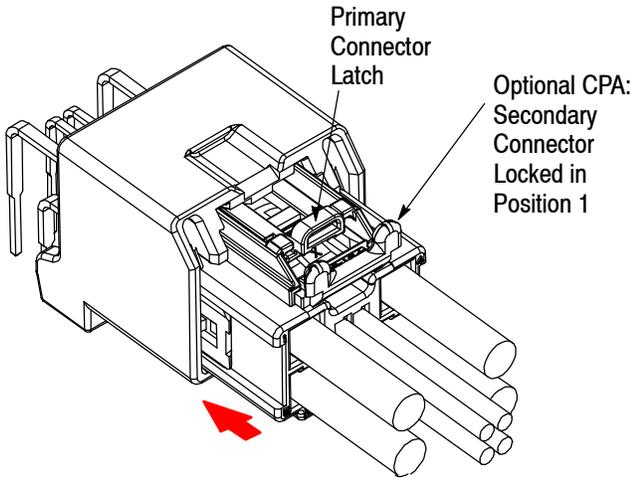

Figure 7
2. To mate connector, push on housing base or sides only. Do not push CPA forward until primary connector latch “clicks” and engages the interface latch tooth. See Figure 7.